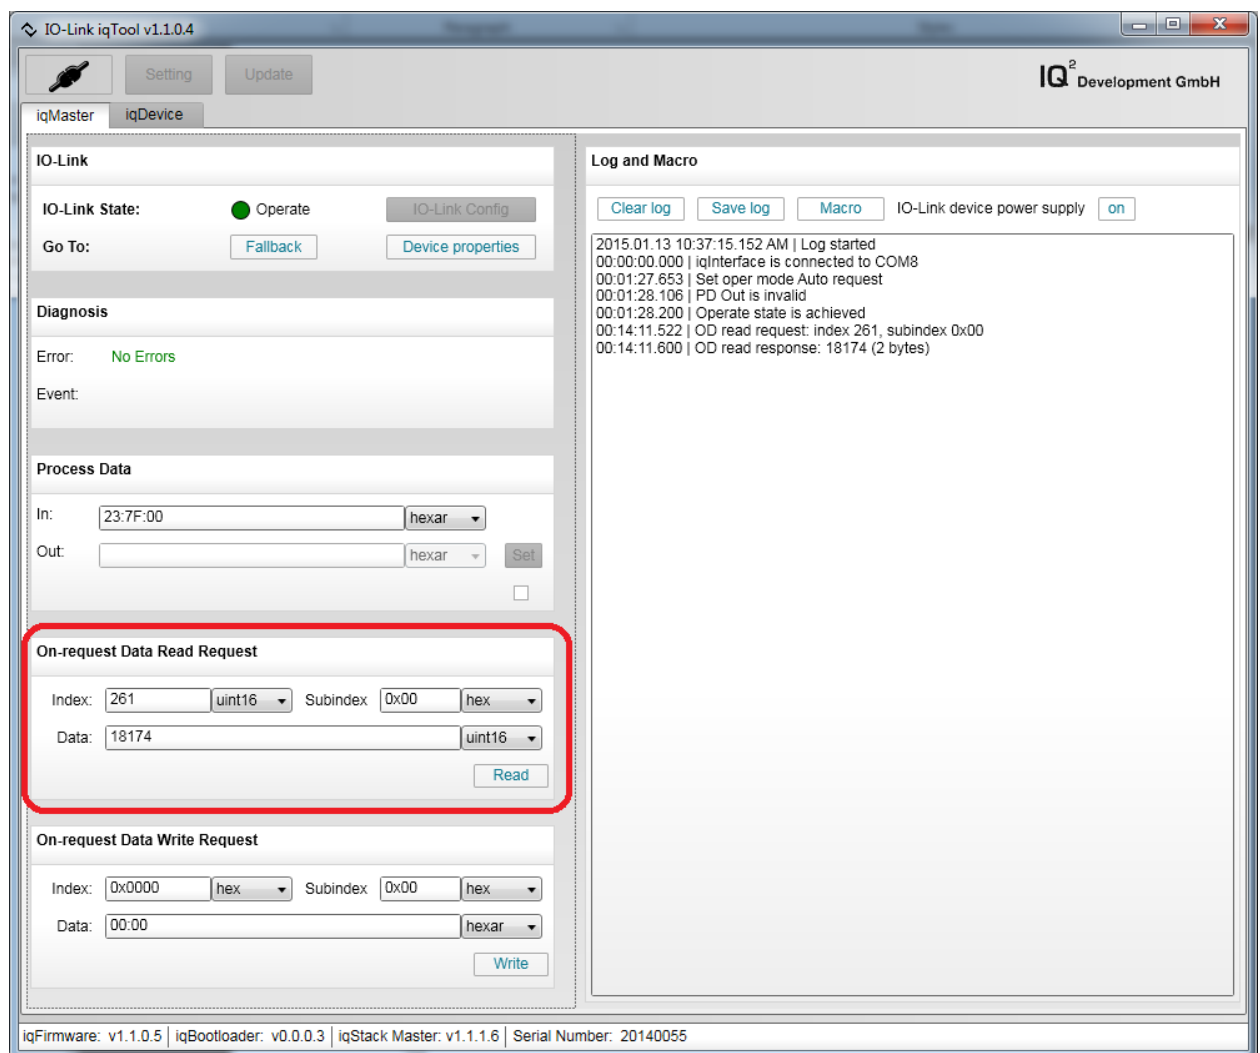

Figure 14. iqTool - On-request Data Read Request group – Index 261.
14. Read the RTD code by performing the operations in the **On-request Data Read Request** group below, as shown in Figure 14.